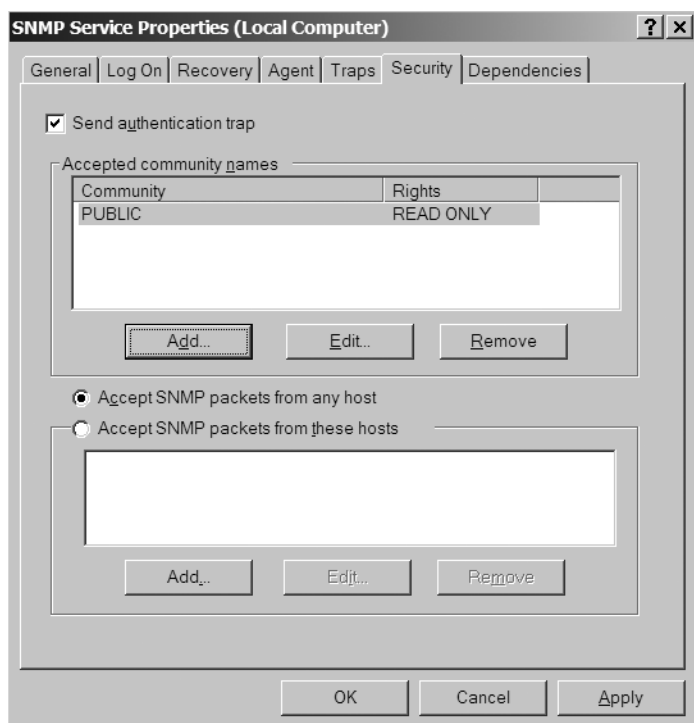

Figure 3-2. *The SNMP Service Properties window*
3. Ensure that the Accept SNMP packets from any host check box is checked, as shown in Figure 3-2.